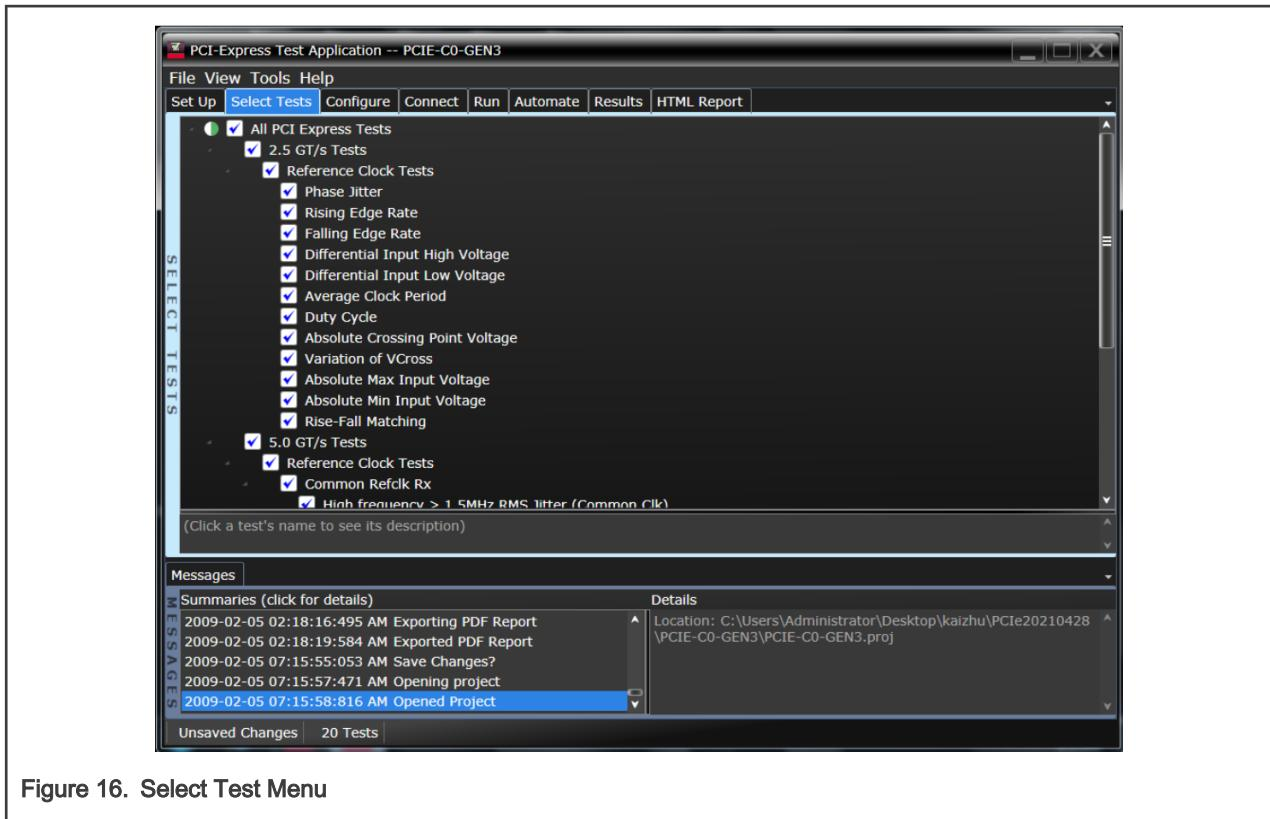

Figure 16. Select Test Menu
11. In the **Select Tests** menu, select the test items as required, as shown in Figure 16.